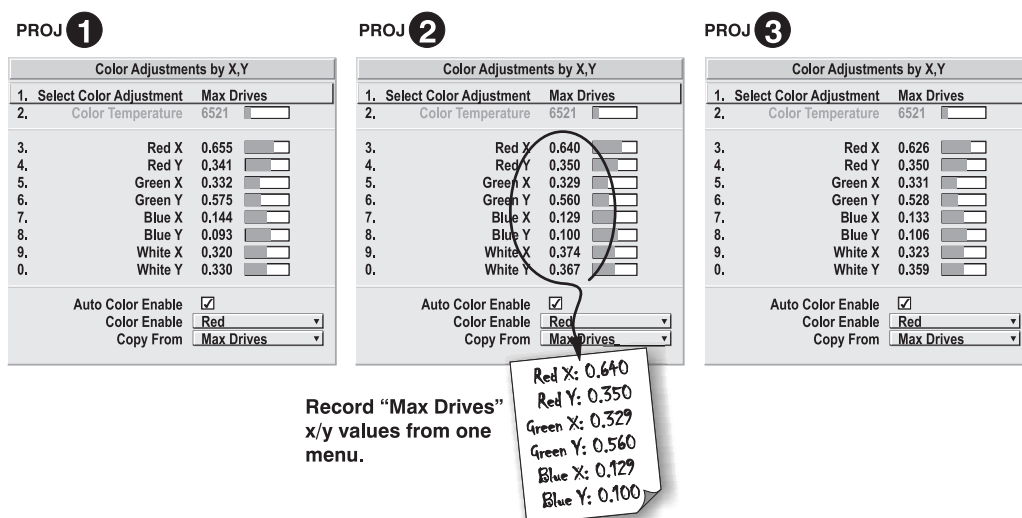

Figure 3.27. Jot Down a Set of "Max Drives" X/Y Values
4. Display the *Color Adjustments by X,Y* menus for all projectors. Each menu shows the x/y coordinates defining the "Max Drives" color gamut for this projector. Jot down the values shown in one (any) of the displays. See Figure 3.27. Or use the "Copy From" function to copy them into a "User" gamut in one projector.